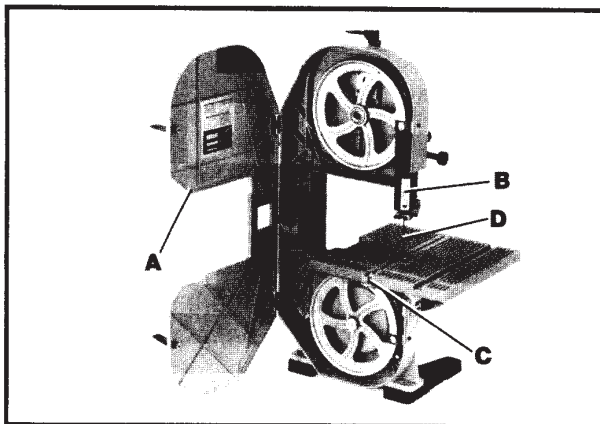

Fig. 28
2. Release blade tension, open hinged door (A) Fig. 28, and remove upper blade guard (B). Remove table alignment screw, washer, and wing nut (C).
3. Carefully remove saw blade (D) Fig. 28.
5. Adjust blade tension and tracking and replace upper blade guard (B) Fig. 28, and table alignment screw, washer, and wing nut (C).